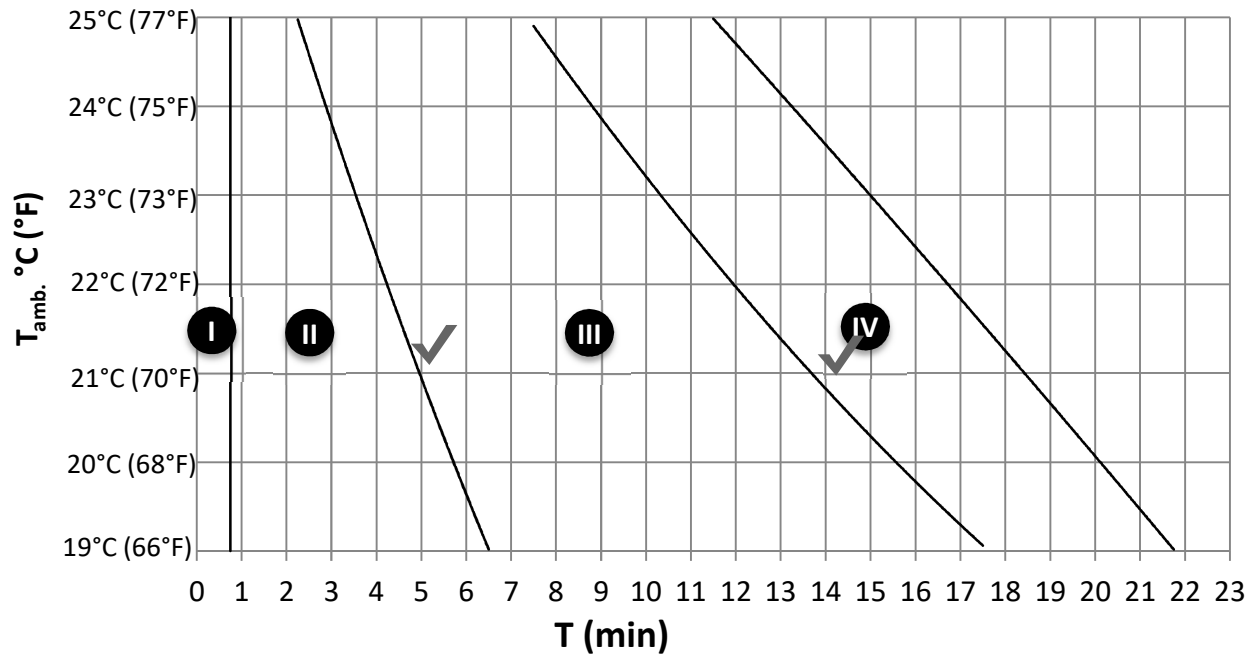

Fig. 1
When the liquid and the powder components are mixed, the benzenamine, N,N,4-trimethyl activates the catalyst dibenzoyl peroxide. This starts the polymerization process of methacrylic acid methyl ester. The result is a homogeneous fluid and then a dough. This dough, introduced as stabilizing medium inside the vertebral body, within the limit working time prescribed by the manufacturer (see fig.1), will become solid, obtaining the fixation and stabilization of the broken vertebral body.
- Polymerization of bone cement is an exothermic reaction which finish only when bone cement becomes hard inside vertebral body. Respect waiting time before application (fig. 1) and consider that generated heat may damage bone tissue or other tissues in contact with bone cement.
Duration of phases from II to IV is function of ambient temperature and humidity. Higher temperature accelerates hardening, while lower slow it down (see fig. 1).